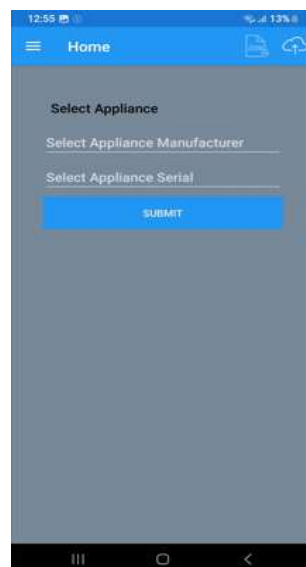

Figure 33 Mobile Application Home screen
- The home screen of the mobile application is shown in figure 33, click on the connect button to download the data from the data logger.